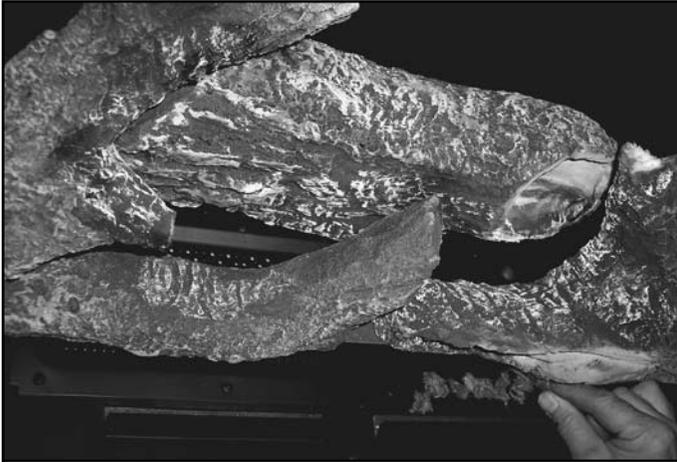

Figure 15.6 Placement of Rockwool
- Place a small amount of 1/2 in. (13 mm) diameter pieces (dime-size) of rockwool on the burner pan so that the rockwool touches but does not cover the holes in the burner pan. This will provide the “glowing embers” look. It is not necessary to use the entire bag. Save the remaining rockwool for future use. See Figure 15.6.